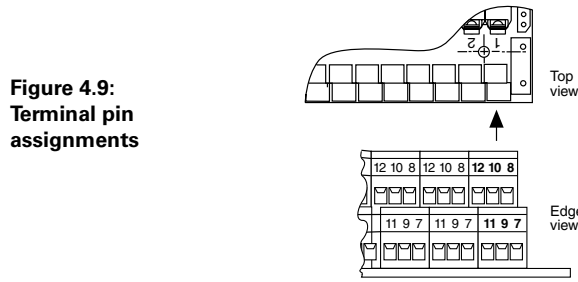

Figure 4.9:
Each module position is provided with a 6-way split-level terminal block for safe-area signals. The six terminals reproduce the module terminals numbered 7 to 12 as shown in Figure 4.9.
- Make the appropriate connections to the terminal block in accordance with the pin assignment numbers reproduced in Figure 4.9.